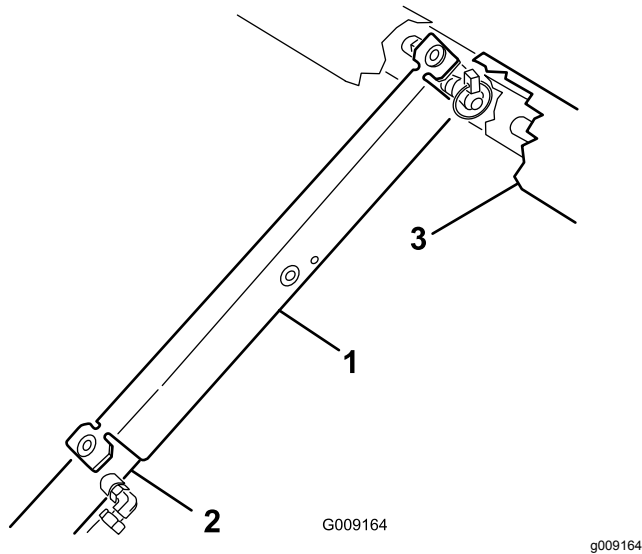

Figure 13
- Push the bed support onto the cylinder rod, and ensure that the support end tabs rest on the end of the cylinder barrel and cylinder-rod end (Figure 13).